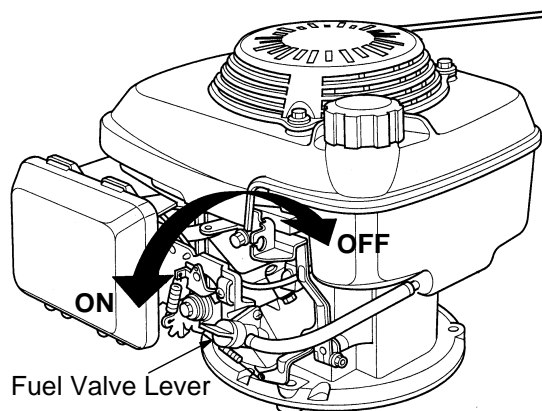

Figure 7
- Make sure that the fuel valve lever found on the left side of the engine is in the ON position. See Figure 7.